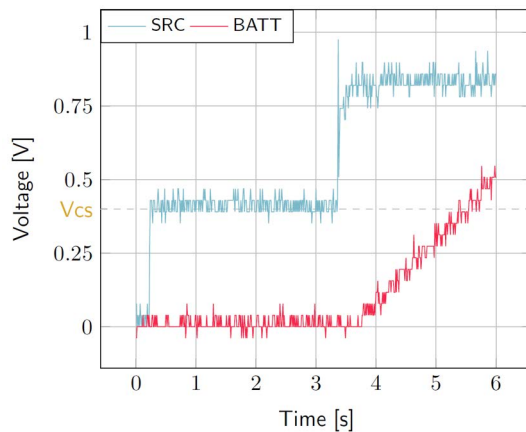

Figure 6: AEM00941 behavior during cold start
- **SRC**: Equal to the cold-start voltage during the cold-start phase. Regulated at the selected voltage when cold start is over. (See Figure 6). Be careful that the cold-start phase time will shorten with the input power. Limit it to ease the observation.
- **BATT**: Starts to charge when the cold-start phase is over (see Figure 6).